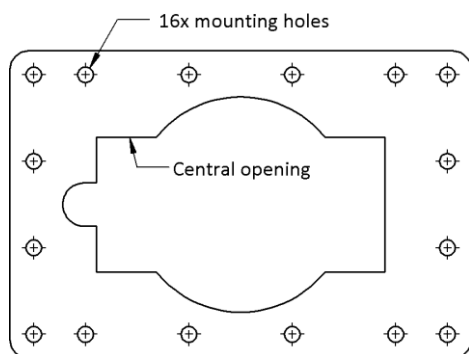

Figure 8 - Backing plate for transom-mount thrusters
1. Place the stern thruster backing plate to the desired position and trace the central opening (see Figure 8).